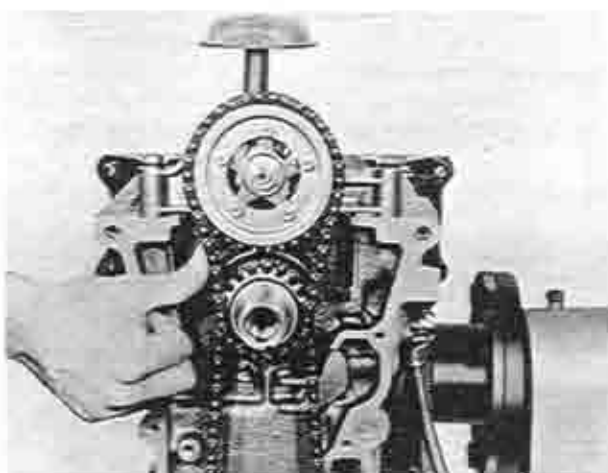

Fig. 1-57 Checking of oil pump drive chain
3. Tighten the oil pump nut and check the slack of the oil pump chain by pressing with a finger as shown in Fig. 1-57.